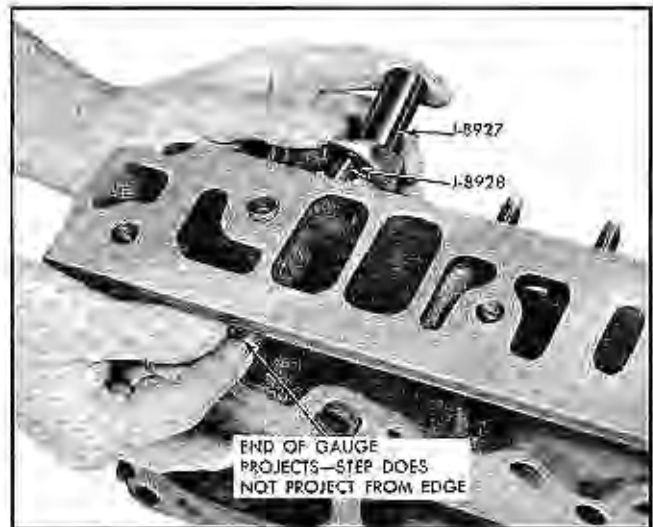

Fig. 6-37 Checking Length of Valve Stem with J-8928
a. Position rocker arm on stud and hold in place using rocker arm stud installer J-8927. Slip valve into place and hold it against valve seat. While holding rocker arm and valve in position securely, insert valve train gauge J-8928 through push rod hole and seat snugly in push rod seat of rocker arm (Fig. 6-37). With all parts seated, step end of gauge should be at least flush with gasket face of head, but should not project past the step on the gauge.